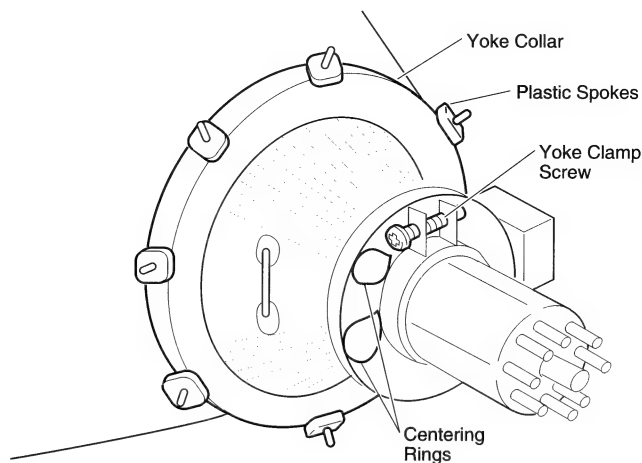

Figure 3 CRT Adjustment Controls
2. Loosen the yoke clamp screw two or three turns (see Figure 3).
4. Place one hand behind your back, and with your other hand grasp only the plastic spokes of the yoke collar (see Figure 3). Rotate the yoke collar until the top and bottom edges of the picture appear parallel with the top and bottom edges of the bezel. **(Do not move the magnets, which are preset by the manufacturer and should not be adjusted.)**
6. Hold the yoke collar in position and tighten the yoke clamp screw so that the yoke collar will not slip (see Figure 3). Don't overtighten.